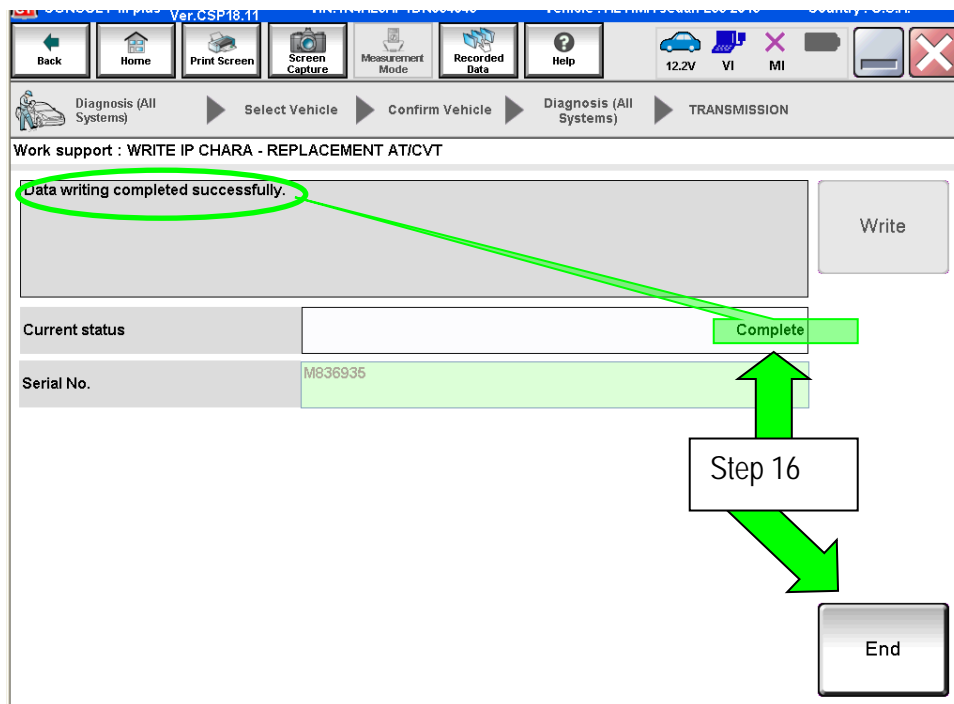

Figure A8
15. When the calibration data has been written to the TCM, the message “Data writing completed successfully” will be displayed and **Current status** will indicate **Complete** (Figure A8).